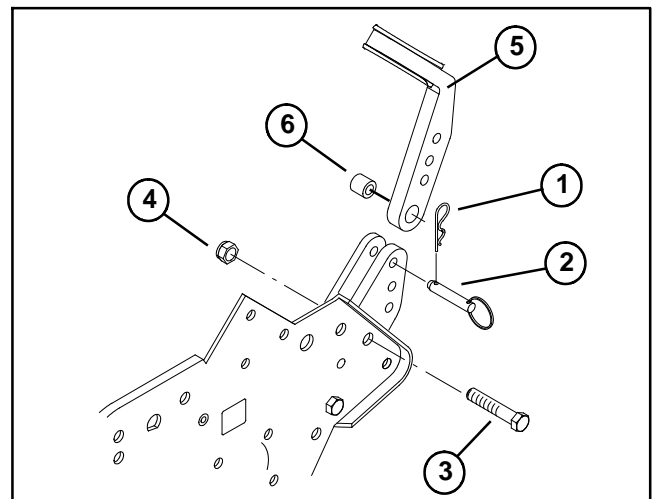

Figure 4
Note: The cotter pin, ring pin, cap screw, and lock nut may have to be removed from the handle arms to allow handle removal (Fig. 4).
Note: The cotter pin, ring pin, cap screw, and lock nut may have to be removed from the handle arms to allow handle installation (Fig. 4).
2. If the cotter pin, ring pin, cap screw, and lock nut have been removed from the handle arms, reinstall the handle arms to the frame. Make sure spacer is installed in the handle arm. (Fig. 4).